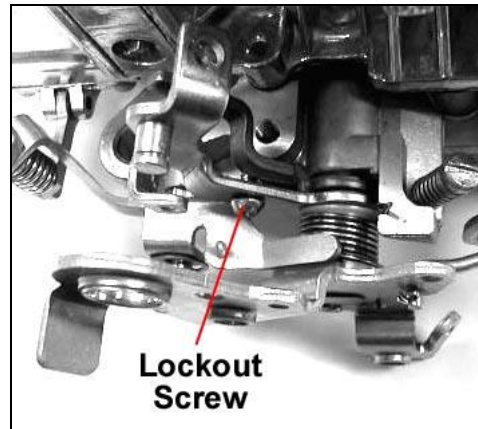

Figure 4—Ford applications
3. Remove the lock out screw from the kickdown lever (**Figure 4**).